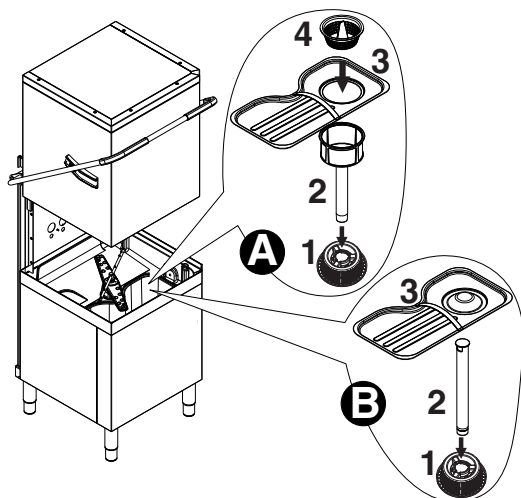

Figure 14 Filters and overflow
In versions with supplementary filtering system (FS), make sure the pump suction filter "1", the tank filter "2", the flat filter "3" and the basket filter "4" are correctly fitted ("A" - Figure 14).
In versions without supplementary filtering system (FS), make sure the pump suction filter "1", the overflow "2" and the flat filter "3" are correctly fitted ("B" - Figure 14).